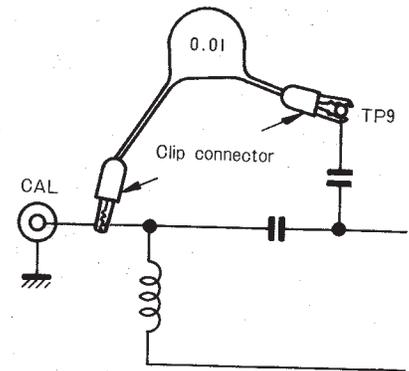

Fig. 27
- 1) Insert a barium titanate capacitor ($0.01\mu\text{F}$) between DG-5TP9 and CAL terminal (Fig. 27).